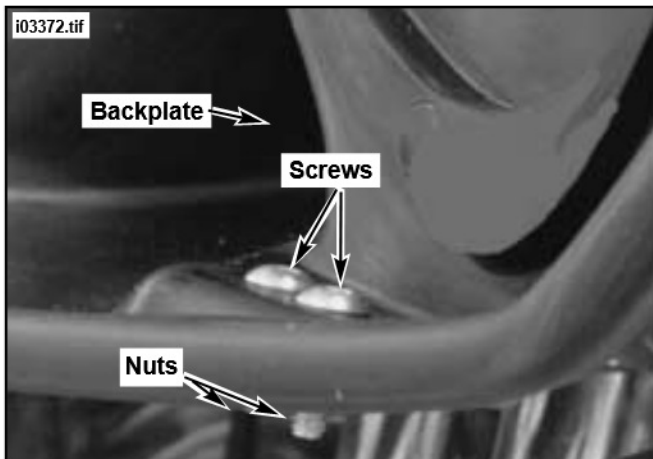

Figure 12. Install Backplate Front Mounting Hardware
34. See Figure 12. Obtain airbox (front) mounting screws and nuts from kit. Apply LOCTITE 243 (Blue) to front backplate mounting screw threads. Install screws through backplate and front isolator mount, then install nuts. Tighten hardware to 3-5 ft-lbs (4.1-6.8 Nm).